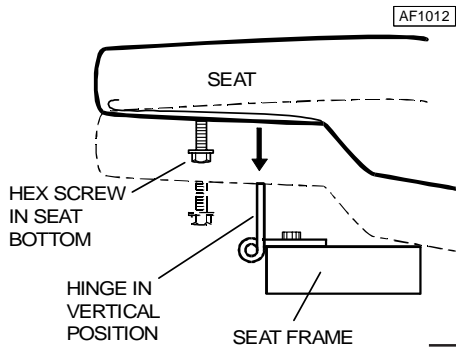

Figure 9
4. Turn the two hinges up into a vertical position. Lower the seat onto the chair with the seat resting on the hinges (See Figure 9).